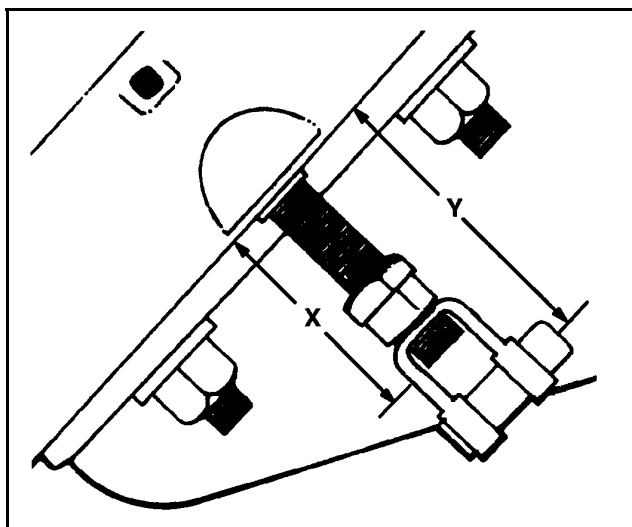
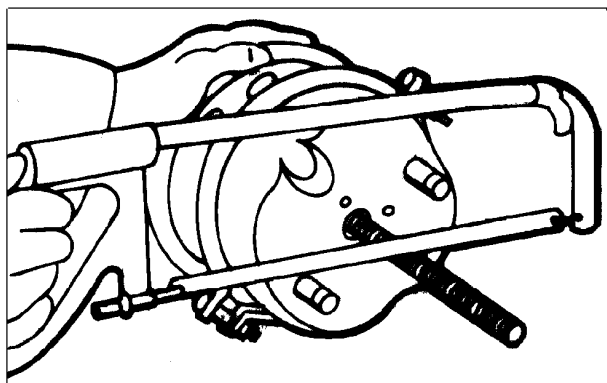

Figure 15 Piston Rod Measurement
Figure 16 Cut Service Piston Rod
1. Make sure that the old spring brake is fully caged. Refer to CAGING SPRING. Be sure the service brake piston is fully retracted into brakes “OFF” position. Then measure outward from the bottom face of the service brake chamber and record both the X and Y dimensions (Figure 15(See Figure 15, page 13)).
- a. On double diaphragm spring brake assemblies that are to be re-attached to standard, manual slack adjusters, the Y dimension (Figure 15(See Figure 15, page 13)) is the most critical measurement, and a new service piston rod must be cut (Figure 16(See Figure 16, page 13)) to exactly duplicate this “rod-plus- yoke” length after the yoke assembly is re-installed on the piston rod.
- b. On double diaphragm spring brake assemblies that are to be re-attached to automatic slack adjusters, the X dimension (Figure 15(See Figure 15, page 13)) is the most critical measurement, and a new service piston rod must be cut (Figure 16(See Figure 16, page 13)) to exactly duplicate this “rod only” length before the yoke assembly is re-installed on the piston rod.